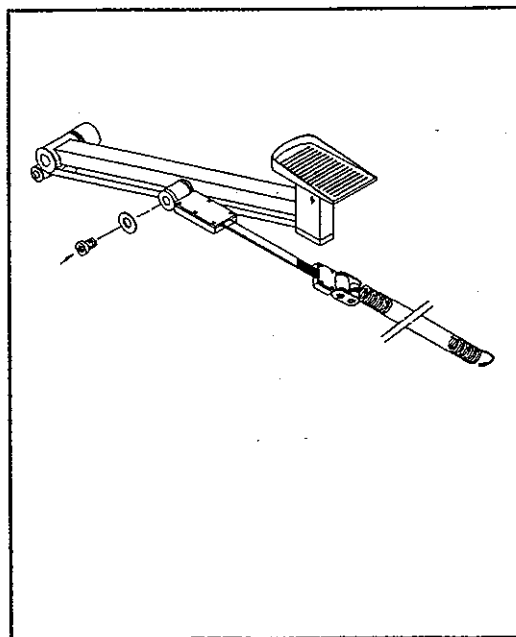

Fig. 15
3. Secure the belt to the stair arm with the screw and washer (see Fig. 15).